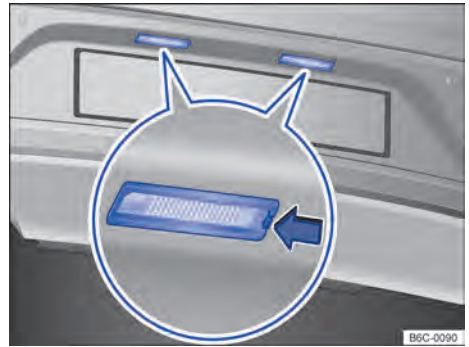

Fig. 170 On the rear bumper: number plate light.
- ① Observe and follow the instructions on the checklist → page 198.
- ② Using a screwdriver, press the lock → Fig. 170 (arrow) to remove the assembly.